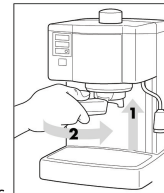

FIGURE 4
11. Attach the filter holder (with ground espresso) to the machine by positioning it under the boiler outlet with the handle towards the left. (Figure 4)